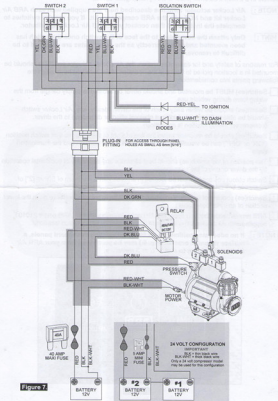
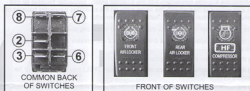

Figure 7
Figure 8.
When wiring an HF compressor switch, Air Locker pressure switch, Air Locker actuator switch(es) and Air Locker solenoid(s) to an HF Air Compressor, all connections can easily be set up using only the supplied wiring loom (HF #180409 shown in Figure 7.)
- ☐ Consulting the wiring diagram (Fig.7.) for wire colors, and the switch terminal illustration (Fig.8.), plug each of the female spade terminals onto their appropriate switch terminal.
NOTE : In a 12V system the 2 black wires (BLK and BLK-WHT) will be joined together, so they may be crimped together into the same yellow eye terminal if desired. Refer to wiring diagram in Fig 7.
- ☐ Identify which battery in the system will be used as the 24V negative (-) terminal (i.e., Battery #1 in the wiring diagram Fig. 7.) by connecting a multimeter across the positive (+) terminal of one battery to the negative (-) terminal of the other battery. If you have tested the correct negative (-) terminal then you will read approximately 24 volts on the multimeter, and this battery will be battery #1, and the other battery with the positive (+) terminal you have just tested will be battery #2 (refer to wiring diagram Fig. 7.).
NOTE : Double check that the connections match the wiring diagram (Fig 7.). Accidentally reversing the 2 black wires will cause damage to the compressor kit.
The following describes an effective procedure for tracing an electrical fault in a CKMA12 or CKMA24 compressor which has been wired using a genuine HF wiring loom (refer to the diagram in Figure 7.). All steps must be performed in the order listed here for an accurate assessment.